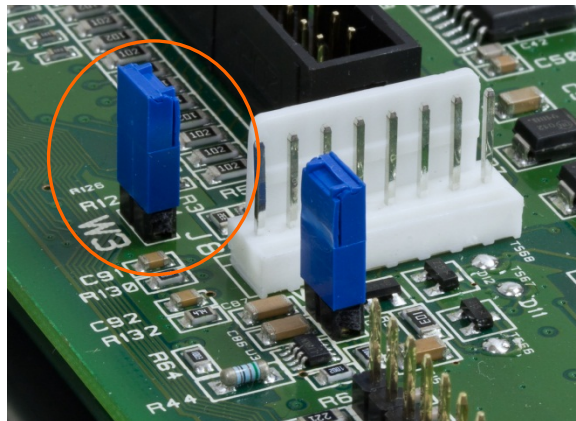

Figure 3-25: W3 Jumper on IND560x Analog Main Board
- **IMPORTANT:** The IND560x-PAB option will only work with a specific revision of the IND560x analog main board. The correct version of analog main board can be identified by the presence of the W3 jumper, located as shown in Figure 3-18, and indicated in Figure 3-25. If the W3 jumper is not present on the main board, then that main board is **not** compatible with the IND560x-PAB.